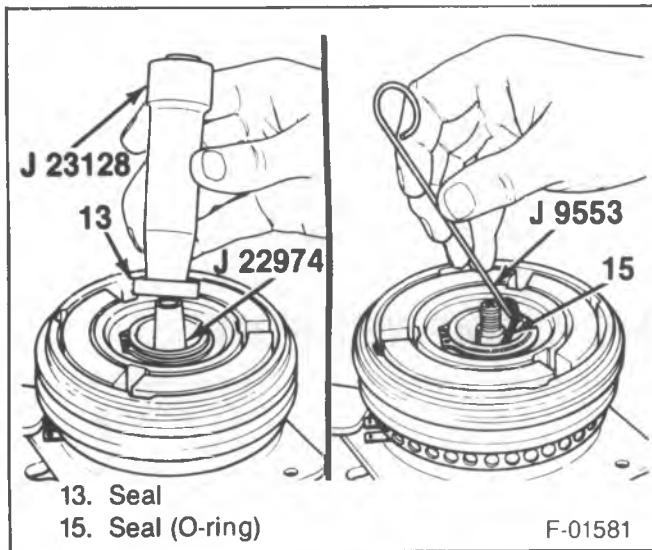
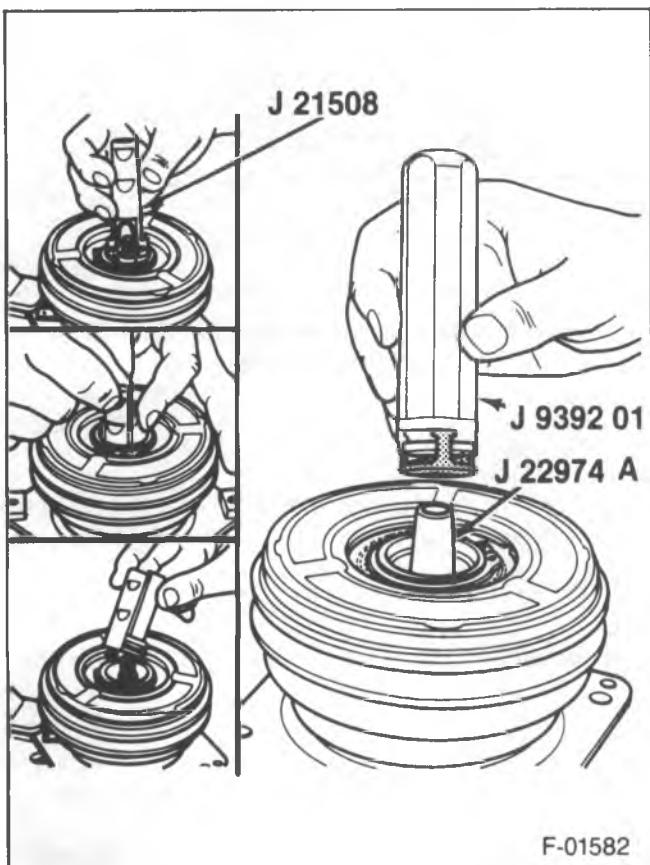

Figure 14—Removing/Installing the Shaft Seal Seat and Seal
Figure 15—Removing/Installing the Shaft Seal and Seal
5. Shaft seat (13) (figure 14).
- Lift the seat (13) from the compressor with a rotary motion.
6. Shaft seal (14) (figure 15).
- Place J 22974-A over the end of the shaft (38) to prevent cutting the O-ring (13).
- Insert J 9392-01 over the compressor shaft (39).
- O-ring (15) with J 33011 (figure 15).
- Dip the seal (15) into clean 525 viscosity refrigerant oil.
- Rotate J 33011 to seat the seal (15).
- Seal seat (14) (figure 15).
- Coat the seal (14) with clean 525 viscosity refrigerant oil.
- Mount the seal (14) to J 9392-01 by engaging the tabs of the seal with the tangs of J 9392-01.
- Place J 22974 over the end of the compressor shaft (39).
- Slide the seal (14) and J 22974 down onto the compressor shaft (38).
- Twist J 9392-01 to the right (clockwise) while pushing the seal assembly down the shaft (38) until the seal assembly (14) engages the flats on the shaft and seat in place. Push down to full depth.
- Ceramic seal seat (13) (figure 14).
- Seal (13) to J 23128.